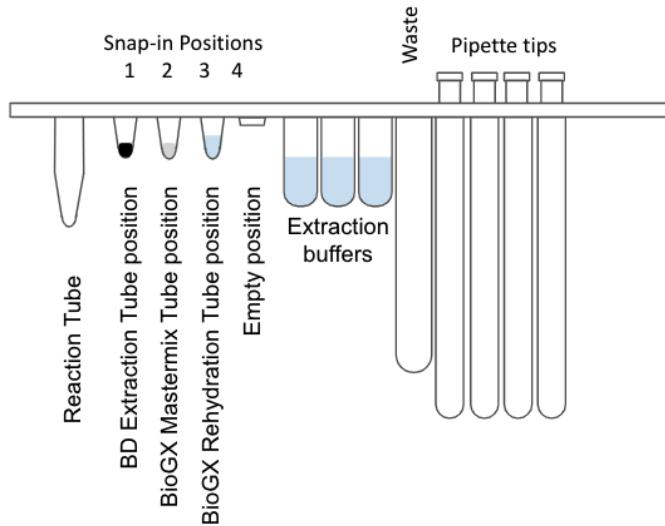

Figure 1. Diagram of BD MAX™ ExK™ 4-snap Unitized Reagent Strips.
3. Snap one BD MAXTM ExKTM TNA Extraction tube into snap-in position 1 (Snap-1) of each extraction strip (**Figure 1**).